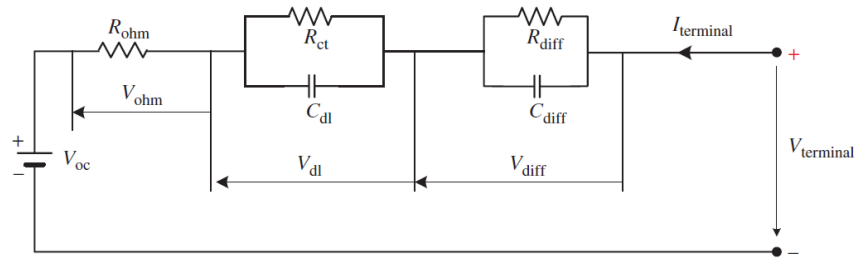

Figure 3: 2RC battery model
- 5B.** The two Resistor-Capacitor pair electrical equivalent circuit battery model is shown in figure 3.